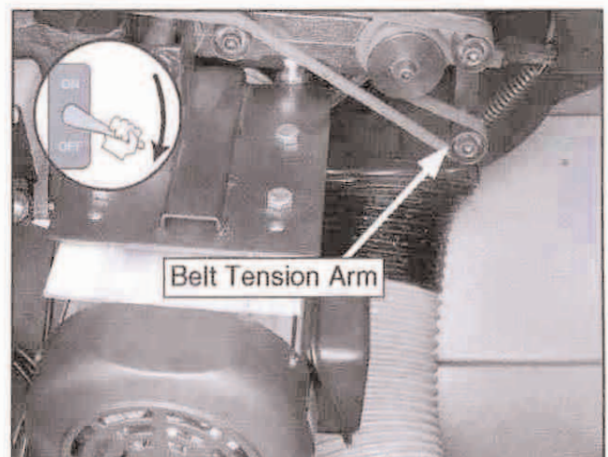

Figure 78. Scoring blade belt tension arm.
3. Rotate the belt tension arm shown in Figure 78 and slide the flat belt off of the roller.